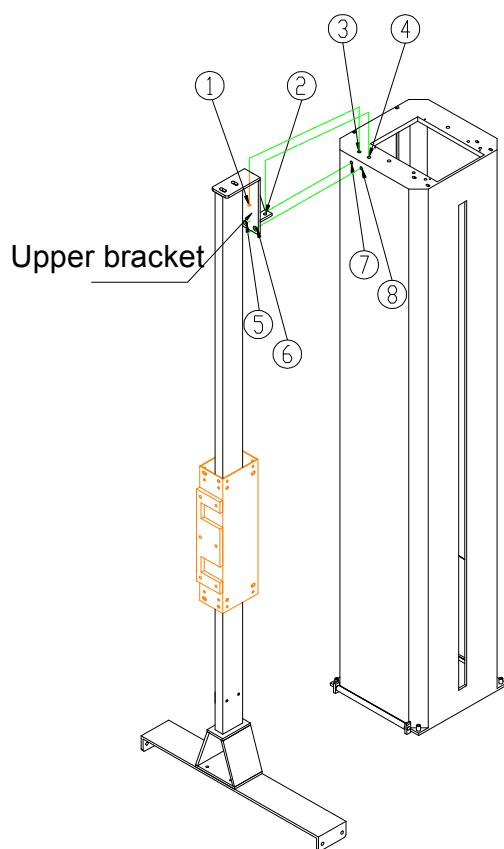

FIG 2-11-1
6. Assembly of the top presser and the upright stanchion: As shown in FIG 2-11-1, erect the whole top presser which has been installed, and connect the holes ① and ② on the upper bracket with the holes ③ and ④ on the top of the upright stanchion, with 2 M10 screws. Connect the holes ⑤ and ⑥ on the upper bracket with the holes ⑦ and ⑧ in the front of the upright stanchion, with 2 M10 countersunk head screws, thus the upper end installation of the top presser is finished.